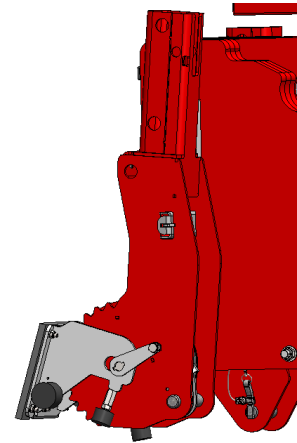

Figure: 35
- Remove the winch head from the ballast support (see *figure 35*).